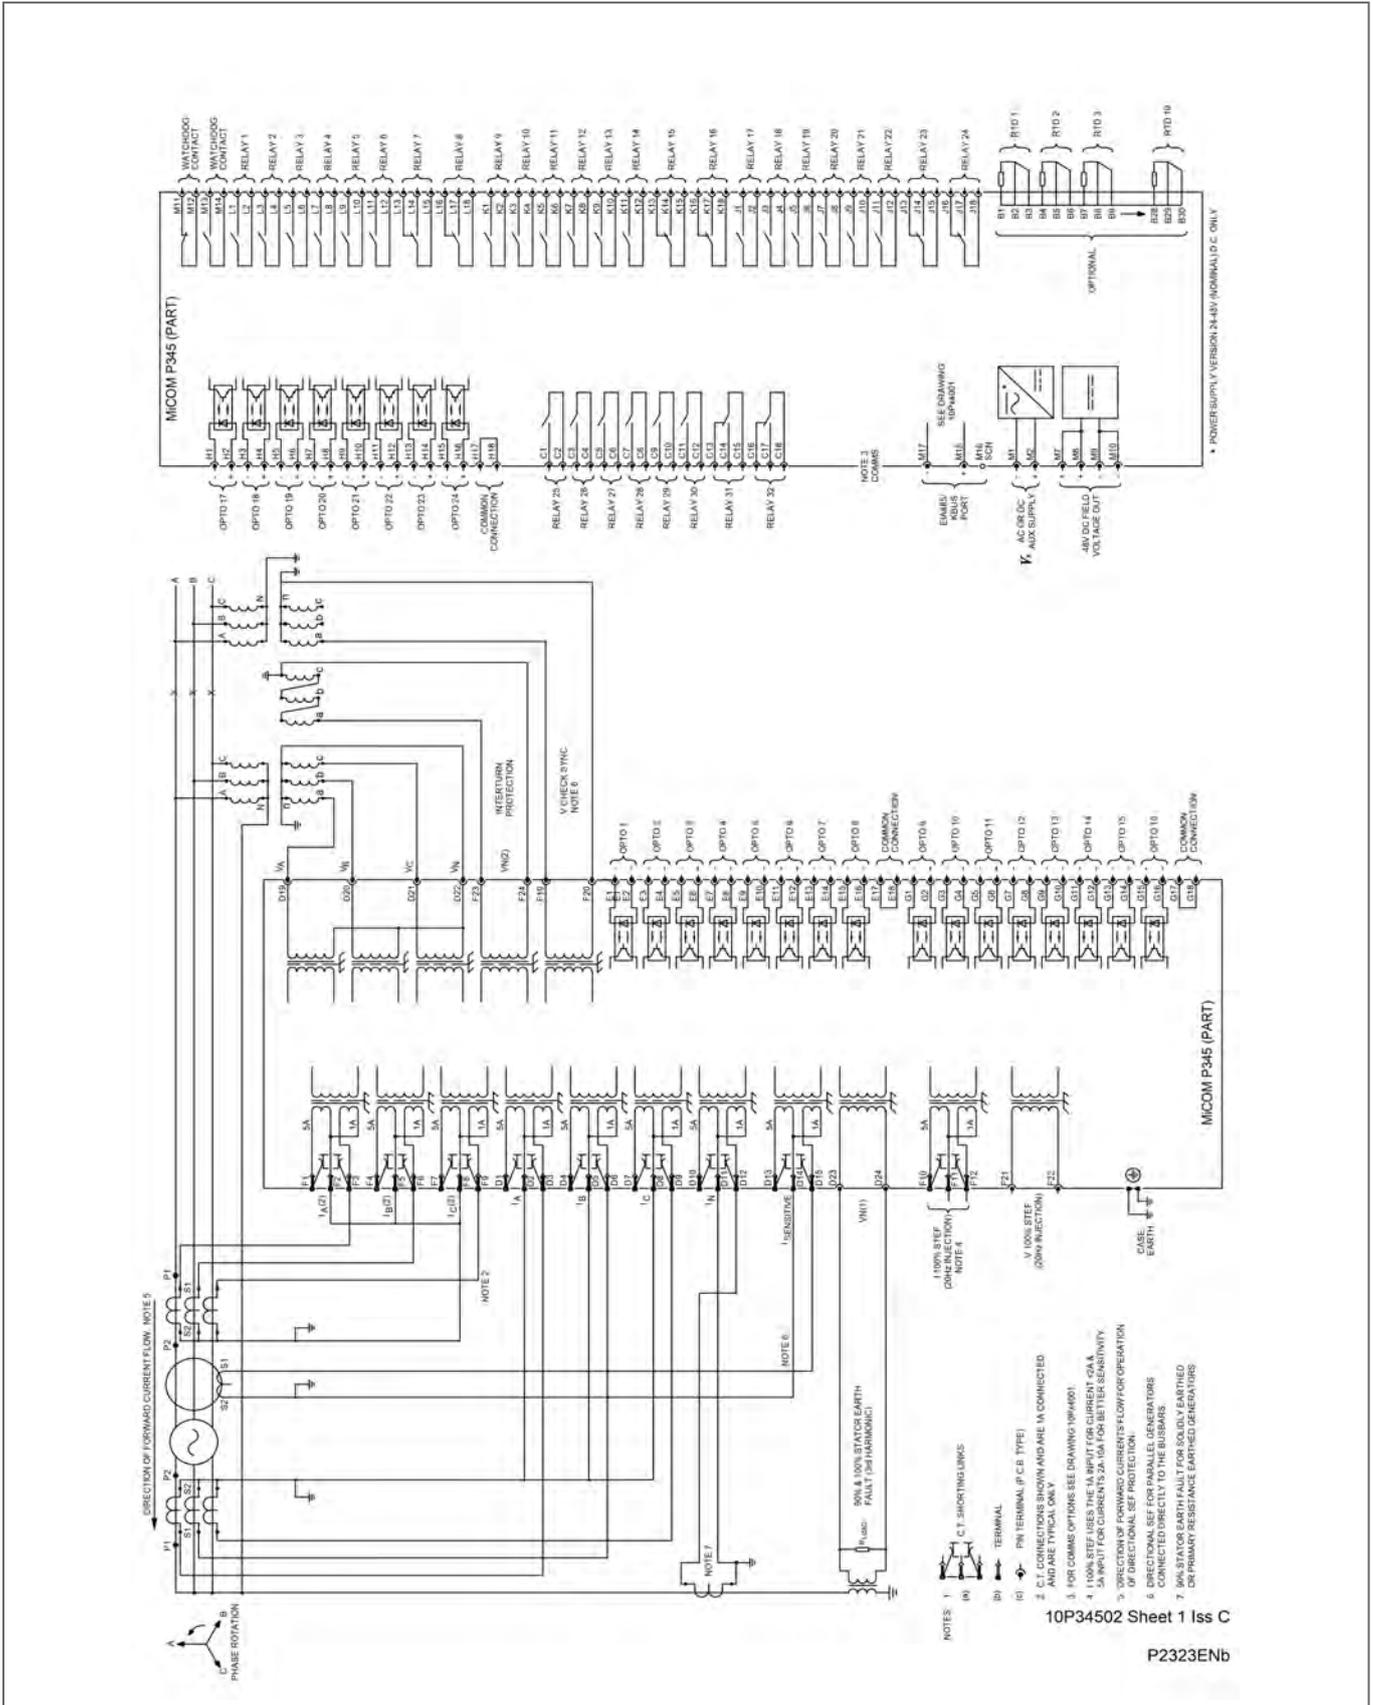

Figure 86 - P345 (80TE) with 90% & 100% (3rd Harmonic) stator earth fault & interturn protection (24 I/P & 32 O/P & RTD)
- Figure 86 - P345 (80TE) with 90% & 100% (3rd Harmonic) stator earth fault & interturn protection (24 I/P & 32 O/P & RTD)